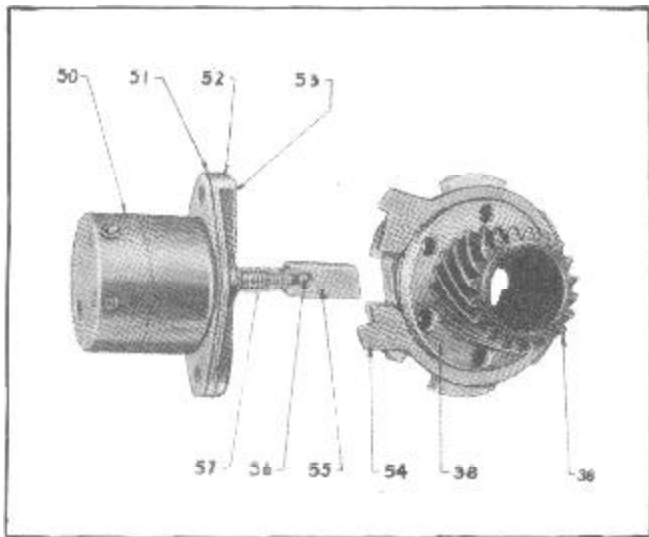

Figure 22--Overdrive Stationary Gear and Plate Assembly and Solenoid
When the accelerator is pressed beyond the wide open throttle position, the throttle switch is closed which completes the circuit in the solenoid relay which in turn closes the circuit in the solenoid (50), Figure 22. Closing of the circuit energizes the solenoid and sets up magnetic forces which draws the operating rod (56) and pawl (55) outward against pressure of spring (57). This action also cuts out the ignition momentarily by shorting out the breaker contacts and grounding the coil directly causing the engine to miss several firing impulses. As soon as this action is made pressure on the gear teeth is removed, momentarily, and the operating rod which is attached at one end to the pawl and which is held in overdrive position by the operating rod spring is drawn in, which releases the stationary gear plate (38) and the stationary gear (36). This allows the plate and stationary gear to rotate freely for direct drive. During the action of the operating rod it automatically opens the ignition contacts and restores the ignition. Part of the solenoid remains energized sufficiently to hold the pawl out of engagement. When the accelerator pedal is returned to any position below open